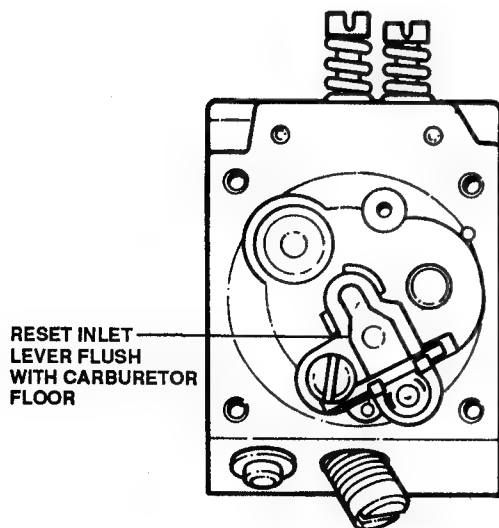

FIGURE 25
2. Inspect the inlet system as in the Zama carburetor, except reset the inlet lever flush with the carburetor floor. See Figure 25.